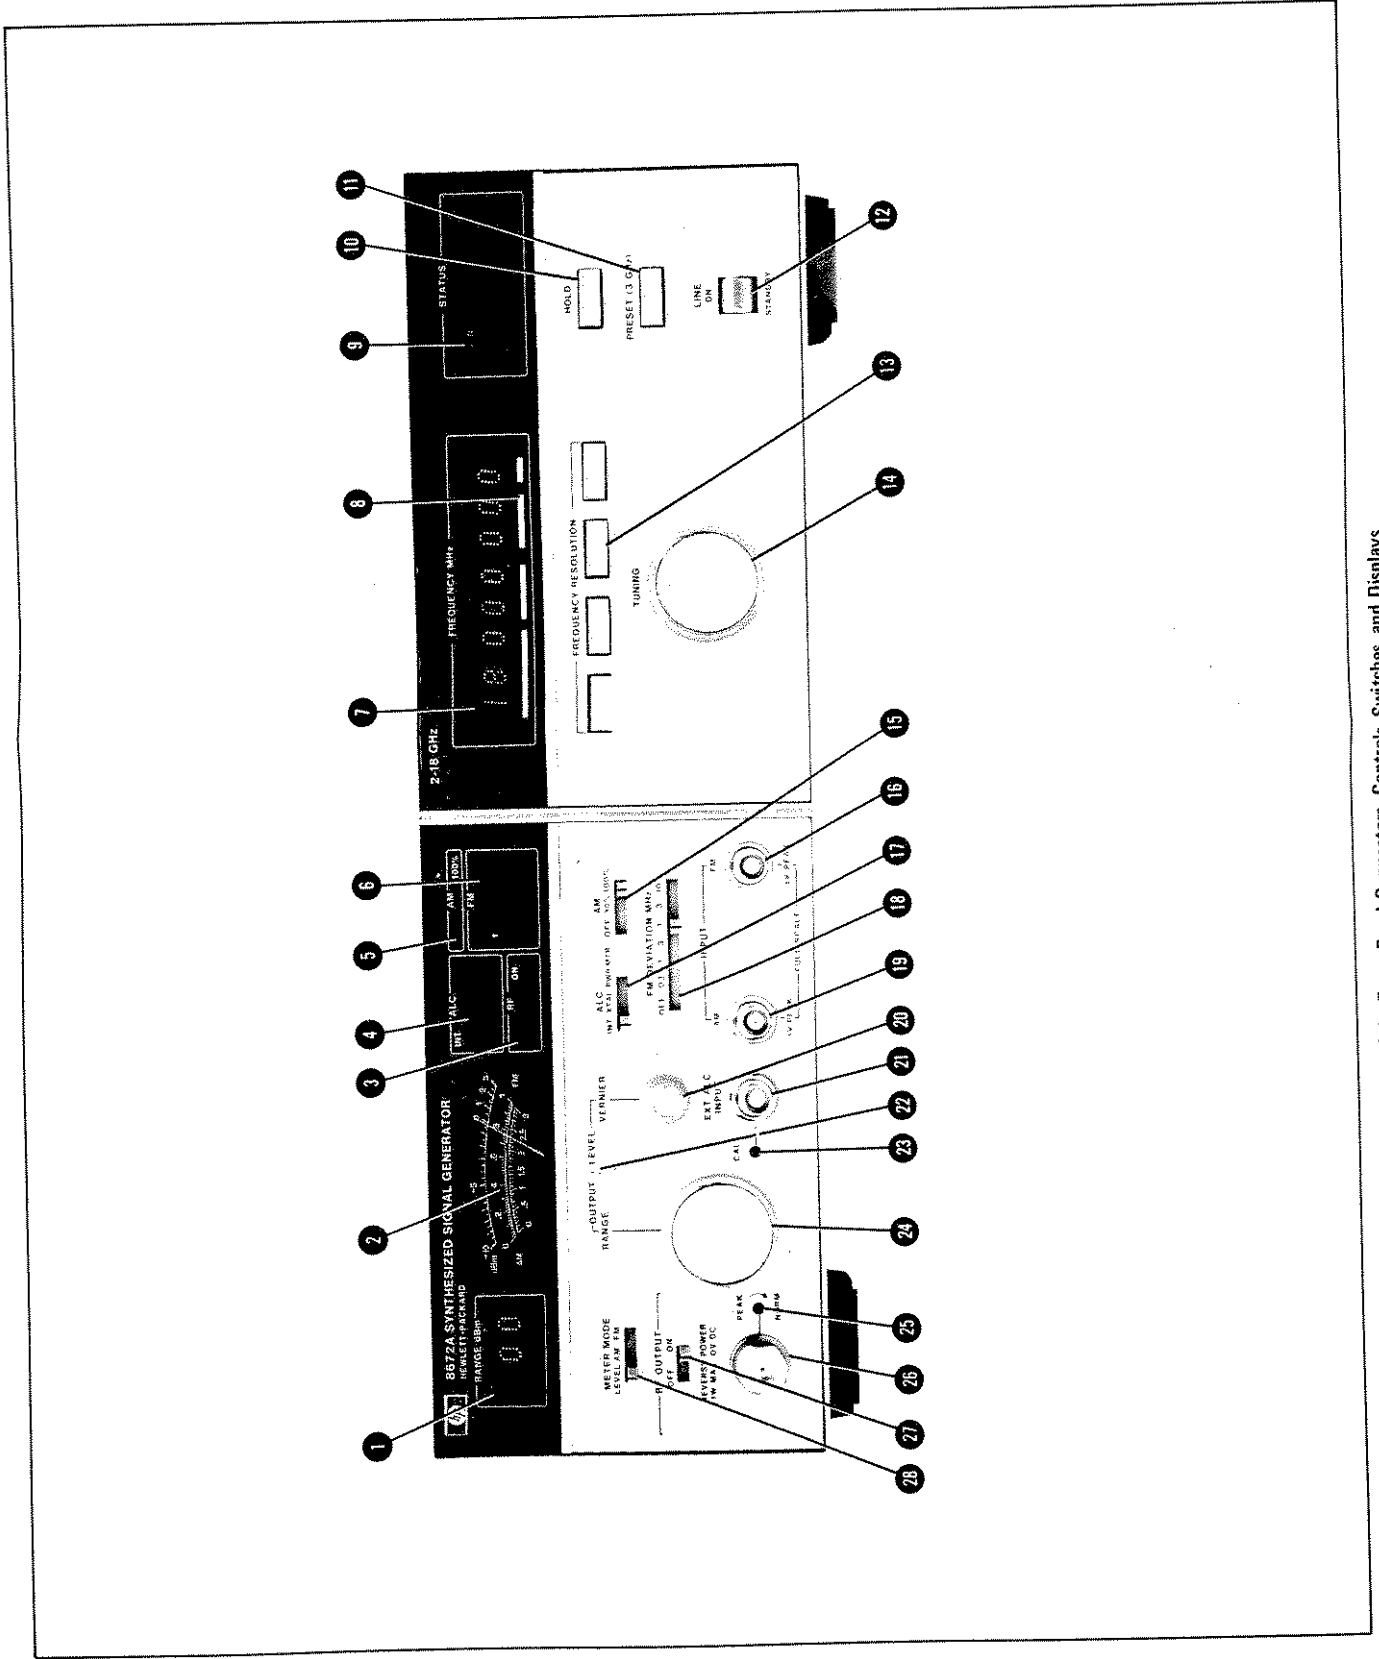
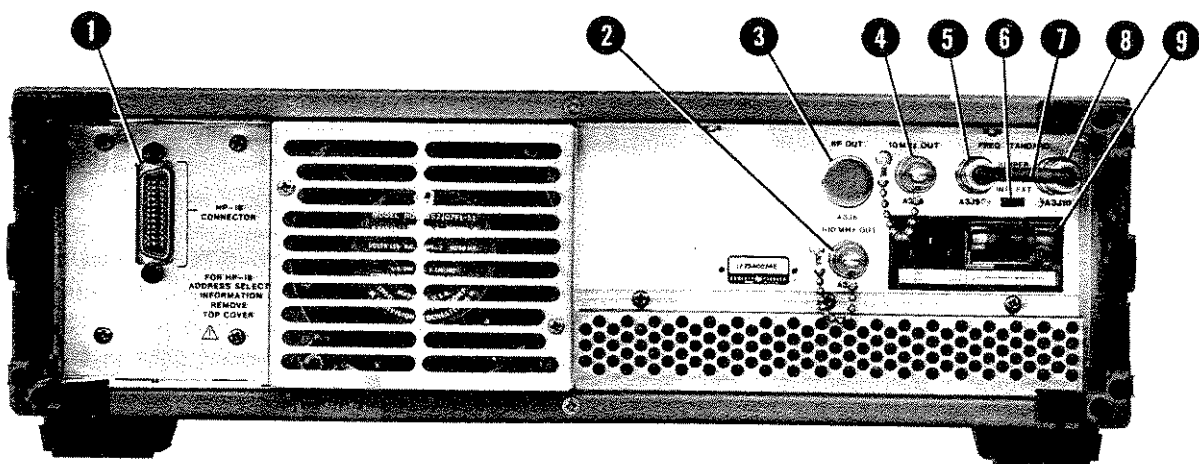

Figure 3-1. Front Panel Connectors, Controls, Switches, and Displays.
Figure 3-2. Rear Panel Connectors, Switches, and Displays
3-5. The front and rear panel features of the Synthesizer are shown in Figures 3-1 and 3-2, and are described in Tables 3-1 and 3-2. The tables contain detailed descriptions of the controls, connectors, and indicators.
3-7. The only maintenance the operator should normally perform is the replacement of the primary power fuse (F1) located in the Line Power Module Assembly ⑨ (A3A11) shown in Figure 3-2 and the mechanical zero adjustment ⑳ of the meter shown in Figure 3-1. For instructions on how to change the fuse, refer to Section II, Line Voltage Selection.
3-9. To mechanically zero the front panel meter ② (see Figure 3-1), set the LINE switch ⑫ to the STANDBY position and place the Synthesizer in its normal operating position. Turn the mechanical zeroing adjustment clockwise to move the needle up scale or counter-clockwise to move the needle down scale. The zero point is located at the left end of the 0-1 or the 0-3 scales. DO NOT zero on the left end of the top dB scale at -10 as this is not the proper zeroing point.
- INTERNAL REF OFF:** when lit, indicates when the rear panel INT-EXT switch **27** (see Figure 3-2) is in the EXT position.
- 11 PRESET key (3 GHz):** sets frequency to 3 GHz and extinguishes the Frequency Resolution Light Bars **8**.
- 1 **HP-IB CONNECTOR:** connects the Synthesizer to the Hewlett-Packard Interface Bus for remote operation. When in remote operation, the STATUS Block (see Figure 3-1) 9 REMOTE annunciator illuminates.
1. Check that the LINE switch **12** is in STANDBY and remove the power cable from the Line Power Module **9** (see Figure 3-2).
2. Check that Line Power Module **9** (see Figure 3-2) is set to the nominal line voltage to be used and that the fuse is the correct value and type.
1. On the rear panel (see Figure 3-2), remove Jumper **7** (A3W3) from the FREQ STANDARD EXT connector **8** (A3J10), and set the FREQ STANDARD INT/EXT switch **6** to EXT.